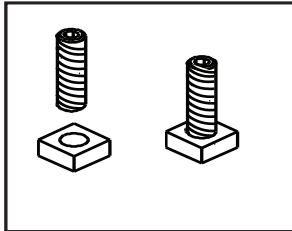

Figure 19.1
1. Thread Allen bolts through nuts until flush. **Figure 19.1.** The Allen bolts and nuts are included in the component pack inside the stove firebox.